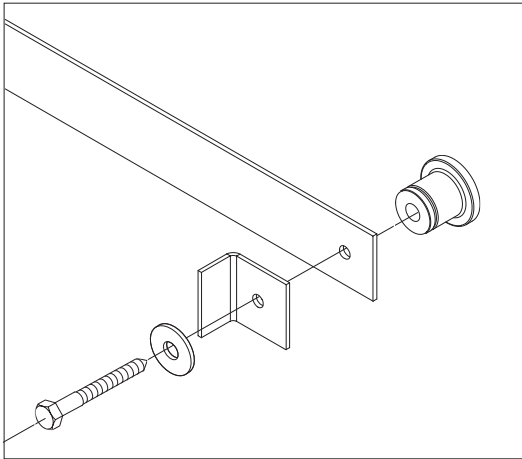

Figure 4
7. Attach one end of the track to the wall with one hard stop, one lag screw, and one washer (provided) using a socket wrench with 9/16" socket (Figure 4). Do not tighten.